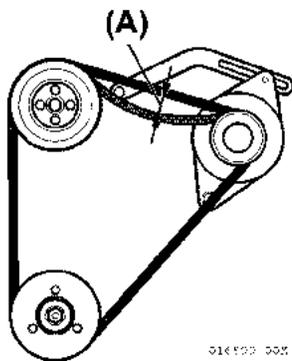

Figure 7-38
3. Check belt tension by pressing on the belt (Figure 7-38, (A)). Allowable belt deflection is shown below. If the belt is loose, it must be replaced.